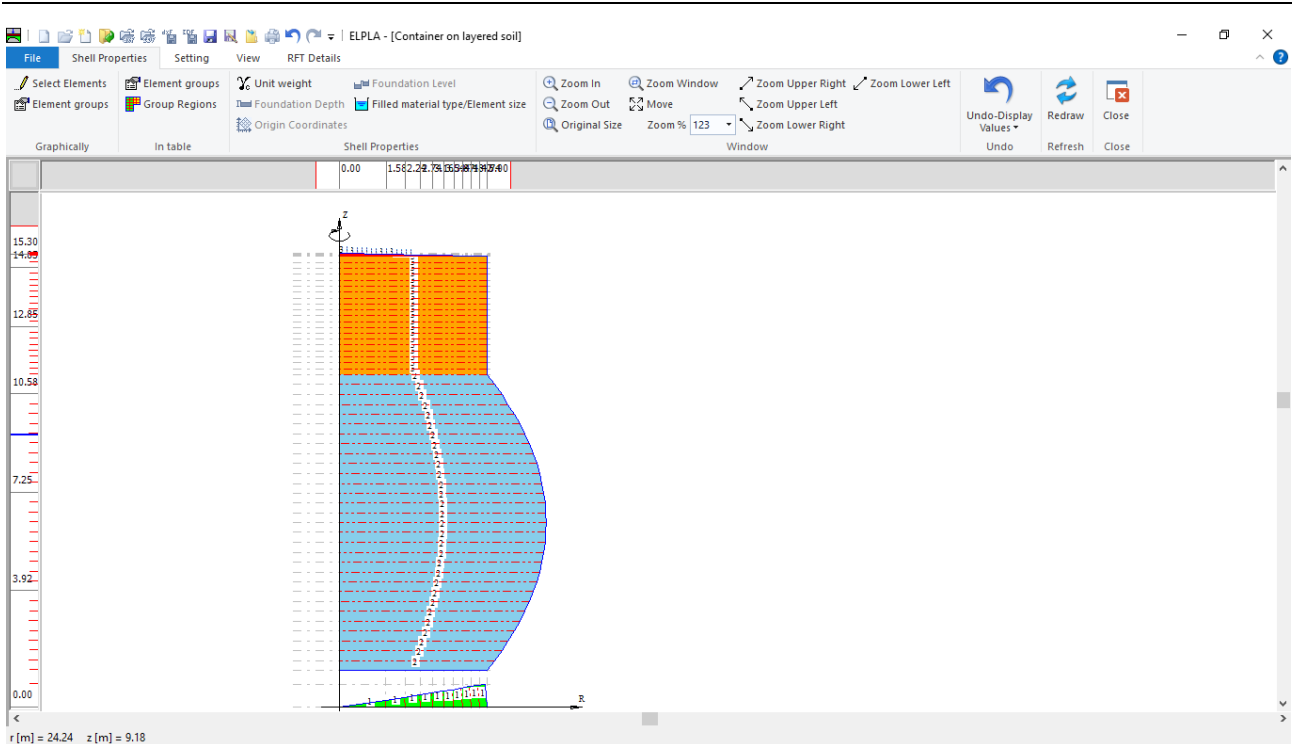

Figure 12.23 "Shell Properties" window after defining the container properties
- Choose "Save" command from "File" menu in Figure 12.23 to save the shell properties
- Choose "Close" command from "File" menu in Figure 12.23 to close the "Shell properties" window and return to *ELPLA* main window